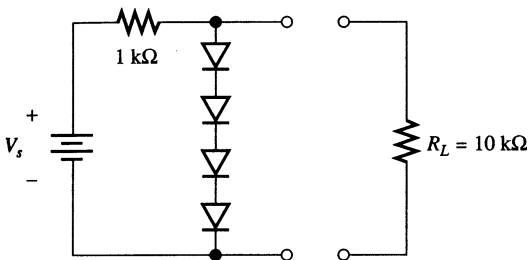

Figure P3.55
3.55. The circuit displayed in Figure P3.55 is used to provide an output voltage of approximately 2.4 V. The diodes have $n = 1$. (a) With the load disconnected, determine the change in v_o when the source voltage changes from 10 V to 12 V. Compute the percentage source regulation for this circuit. (b) For $V_s = 12$ V, determine the change in v_o when the load is connected, and find the percentage load regulation.